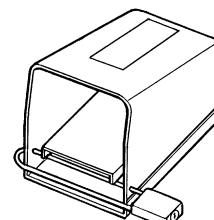

Figure 1 – Locked Foot Switch
7. **Lock foot switch when not in use (Figure 1).** Avoids accidental starting.